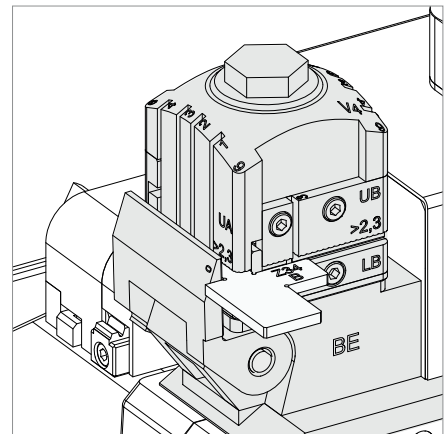

Fig. 128
- 3) Fit the template Z34 (side B upwards) (Fig. 128).